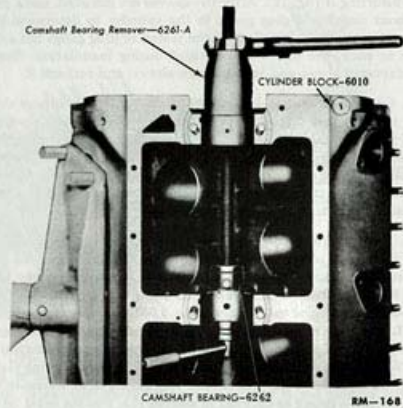
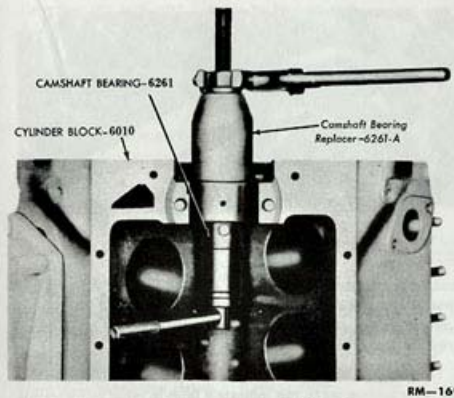

Fig. 17—Removing Camshaft Bearing
Fig. 18—Replacing Camshaft Bearing
f. **Camshaft Bearing Replacement.** Remove the camshaft bearings with a puller that draws the bearing out evenly (fig. 17). Install the camshaft bearings with a replacer which is equipped with a pilot to guide the bearings, as shown in fig. 18. When installing the camshaft bearings, make sure that the oil hole in the bearing is in